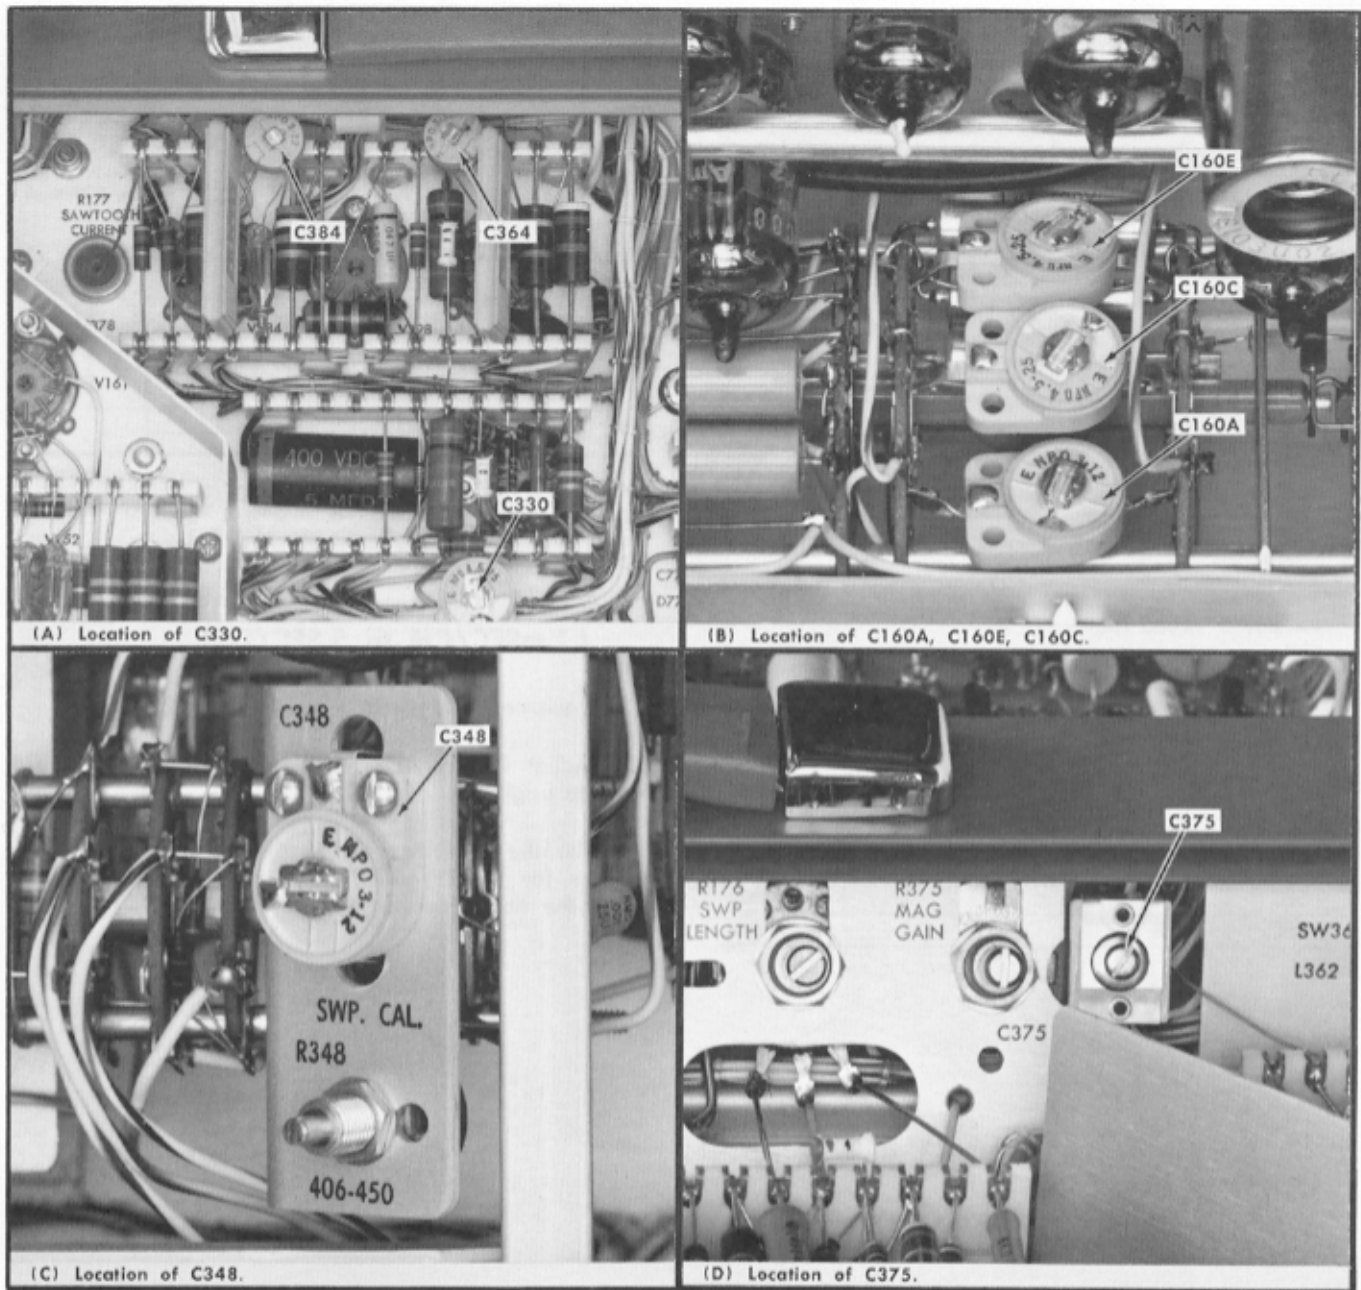

Fig. 6-31. Time Base A Timing adjustments.
g. Adjust C330 (Fig. 6-31) so the zero marker for both the .1 mSEC and 50 μ SEC/CM position occurs at the same position.